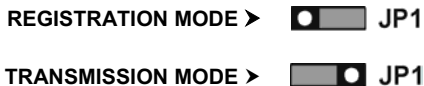

Figure 4: Mode Jumper Configuration
8. Set the siren to Registration mode by placing the Mode jumper (JP1) as shown in Figure 4.
- Set the siren to Transmission mode by placing the Mode jumper (JP1) as shown in Figure 4; the siren transmits a signal every few seconds.